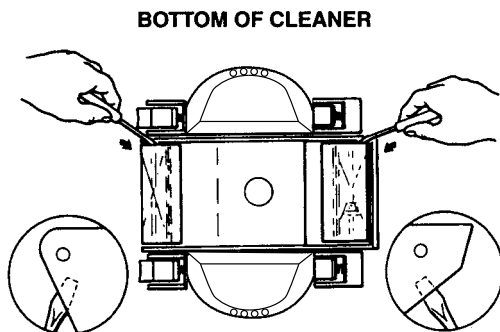

Figure 11
- a) Remove the front and rear flaps from your Cleaner by inserting a small screwdriver between the flap and the lower body near the pivot point of the flaps (see Figure 11).